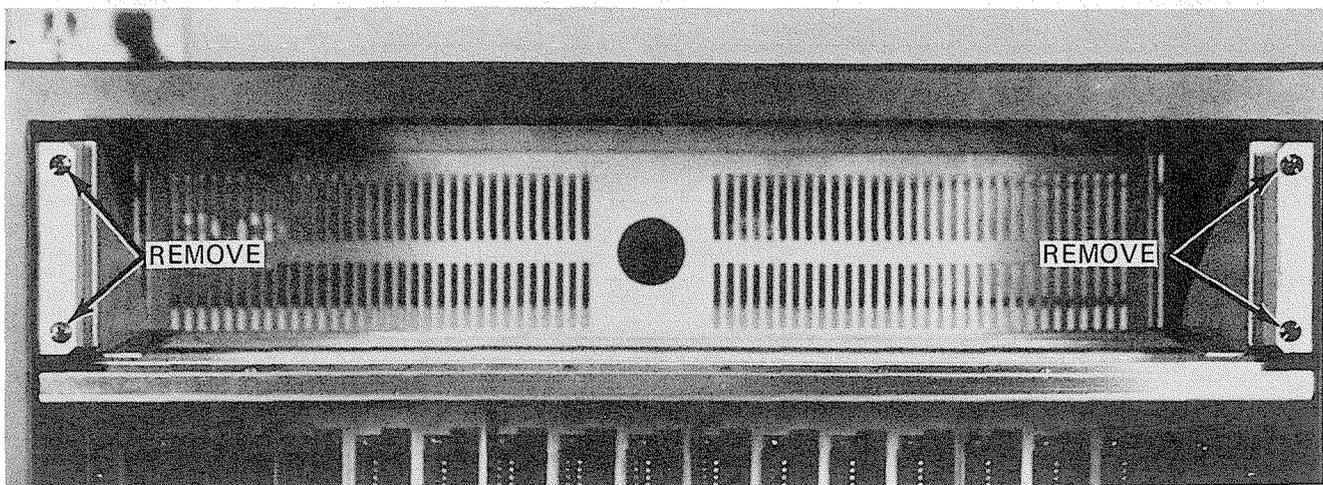

FIGURE 4—DCEC TOP SHELF
- b) Remove and save the 4 screws from the front of the DCEC top shelf (Figure 4).